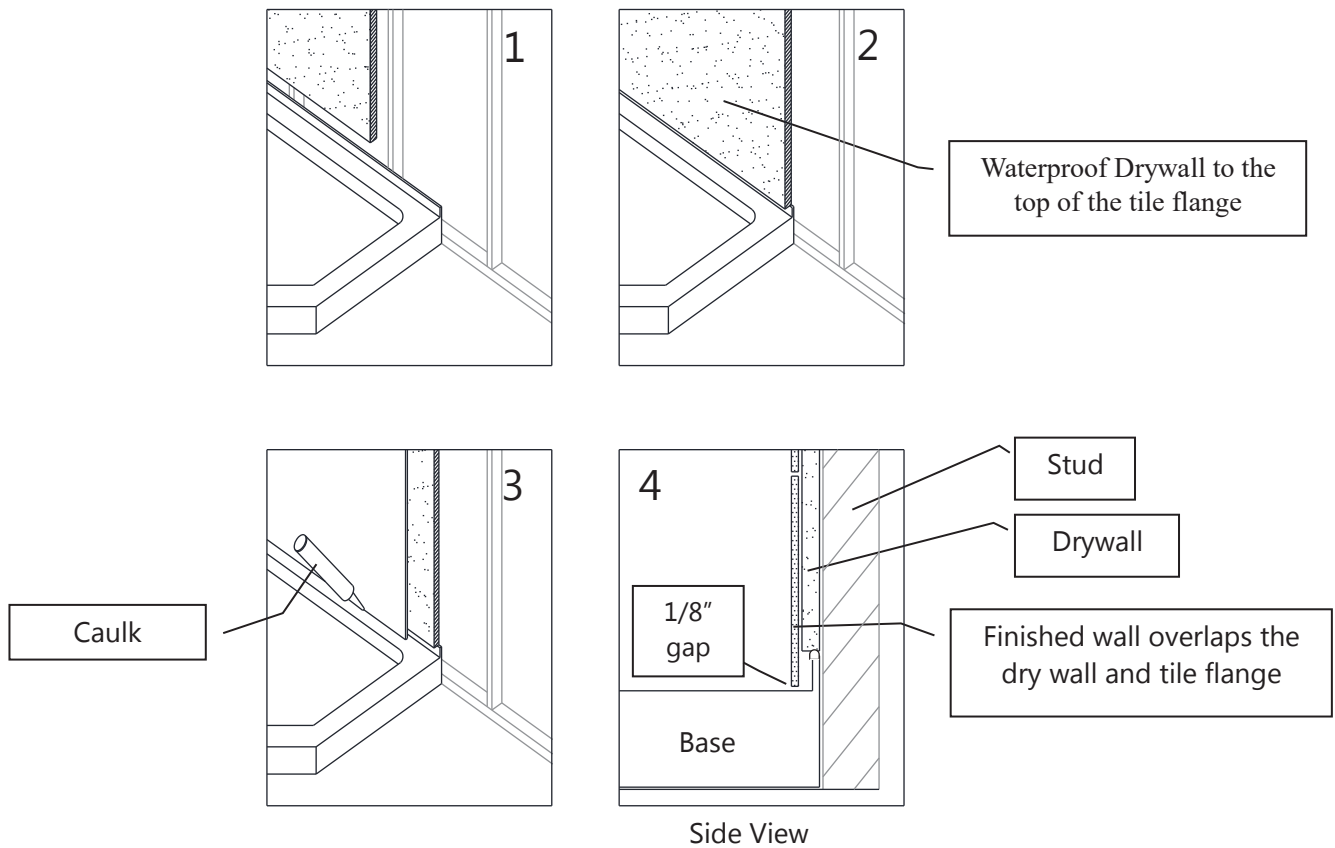

Fig. 7
- Put the tiles (or other finishing wall material) over the drywall leaving 1/8" gap between the bottom of the tile and the splash rim of the shower tray. Use caulk to fill that gap. (Fig.7)